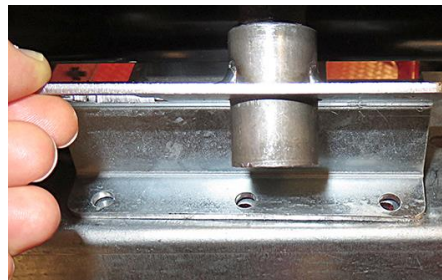

Figure 76
76. Position over the pre-drilled holes (see Figure 76).